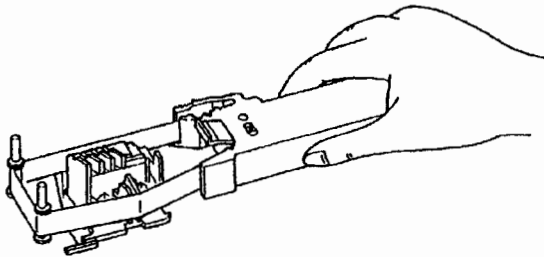

Figure 6.5
- (6) Move that ribbon cassette back by approx. 10 mm toward the guide pins. Be sure to install the ribbon to the guide roller by dropping the slackened ribbon on the roller section so as to cover the front and rear of the printer head. (Figure. 6.5)